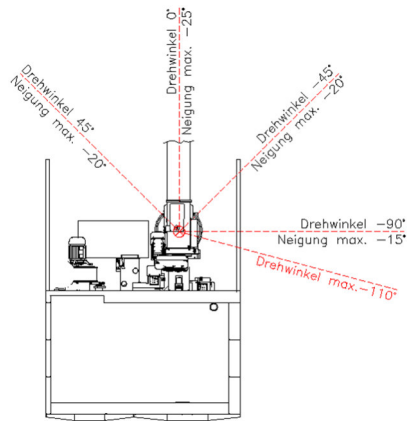

Fig: 1
- 2) When setting up the boiler, be aware that the fuel auger is mounted on the right-hand side of the boiler (viewed from above) and the auger can only be set at an angle of approx. 0° to 45° or 0 to -90° (max. 110°) (see Fig. 1)
- 3) The storeroom should not be significantly lower down than the boiler room (no more than 20 - 30 cm). The maximum possible inclination angles for the outfeed auger are shown in Fig. 1. If the fuel auger slopes steeply downwards, the storeroom should be adapted to the slope of the agitator.